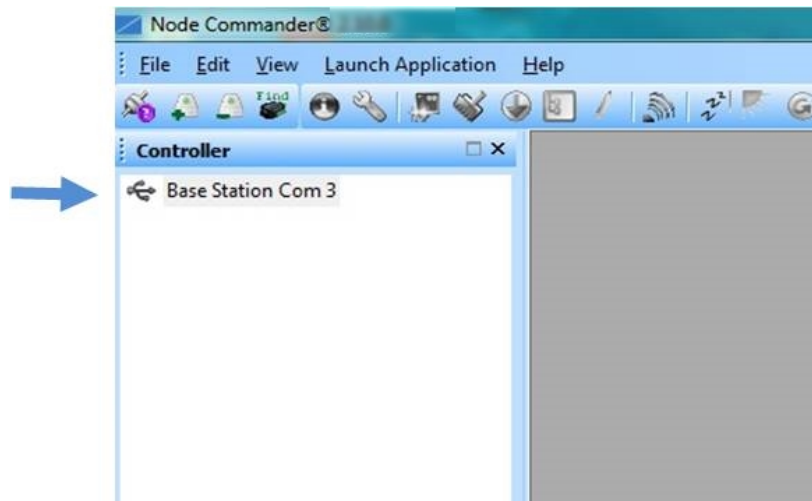

Figure 6 - USB Gateway Communication
3. The gateway should appear in the Controller window automatically with a communication port assignment (Figure 6 - USB Gateway Communication). If the gateway is not automatically discovered, verify the port is active on the host computer, and then remove and re-insert the USB connector.